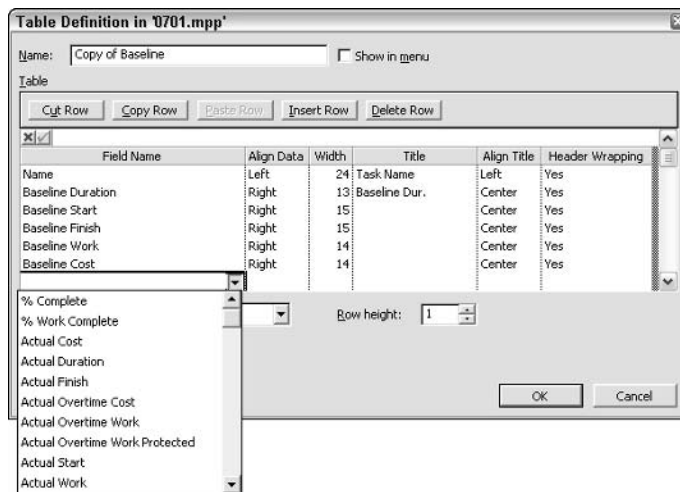

Figure 7-7: You can select fields of predefined information to build the columns in your table.
- To add a field to the table, click a blank space in the area under the Field Name column; an arrow appears on the right side of the field. Click the arrow to display the drop-down list, as shown in Figure 7-7, and select a field name.